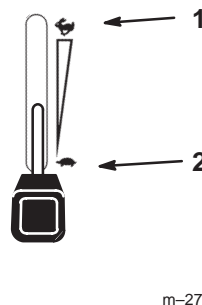

Figure 14
5. Move the throttle control to the fast position before starting a cold engine (Fig. 14).
1. Push the PTO to off (Fig. 14).
2. Move the throttle lever midway between the slow and fast positions (Fig. 14).